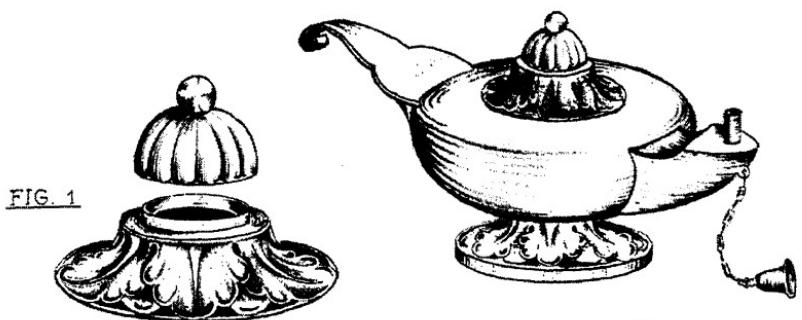

FIG. 1
1. Raise-the pieces, as shown in Figs. 1, 3, and 4.